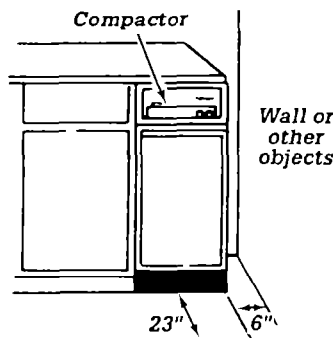

Figure 3
2. Your compactor is designed for recessed installation. Six (6) inches of clearance is needed on the right side of the compactor drawer for bag removal. Also allow twenty-three (23) inches in front of the compactor for drawer removal. (See Figure 3.)